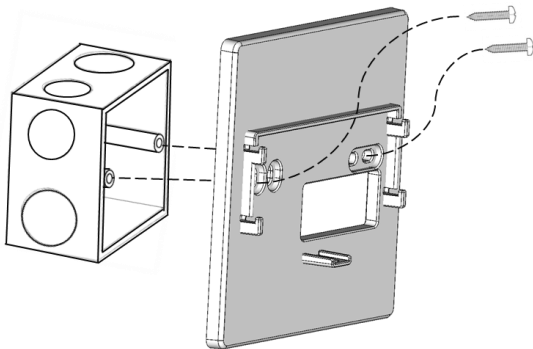

Figure 1
1. Install the wall mount accessory for UNOnext. Use the wall plugs included in the box to install it on the wall, or install in a power box. The wall mount has screw hole spacing (60mm and 84mm) suitable for power boxes in multiple countries, but the power box must be installed horizontally as shown in Figure 1.